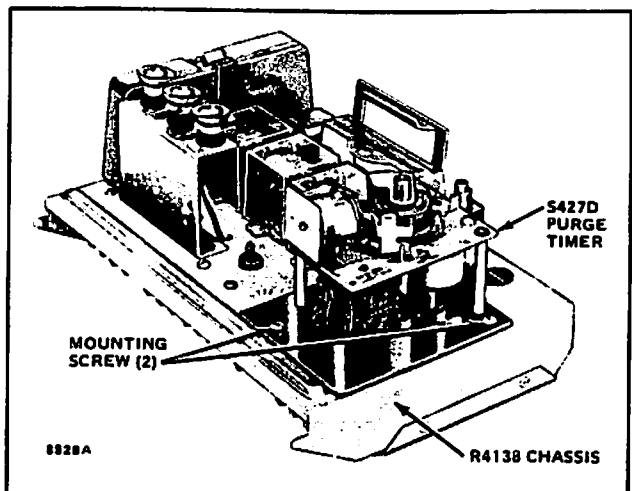
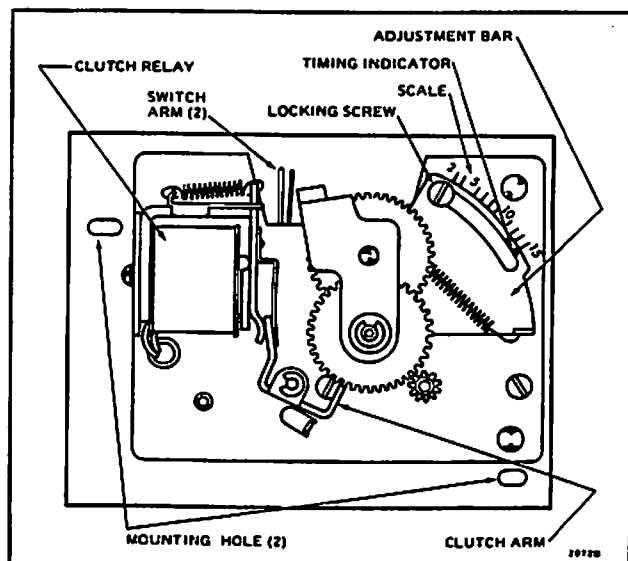

FIG. 16—PURGE TIMER INSTALLED.
FIG. 17—COMPONENTS OF THE S427D PURGE TIMER.
5. Insert the 2 mounting screws (Fig. 16) in the mounting holes (Fig. 17) and tighten them securely.
6. Set the required timing period (Fig. 17).